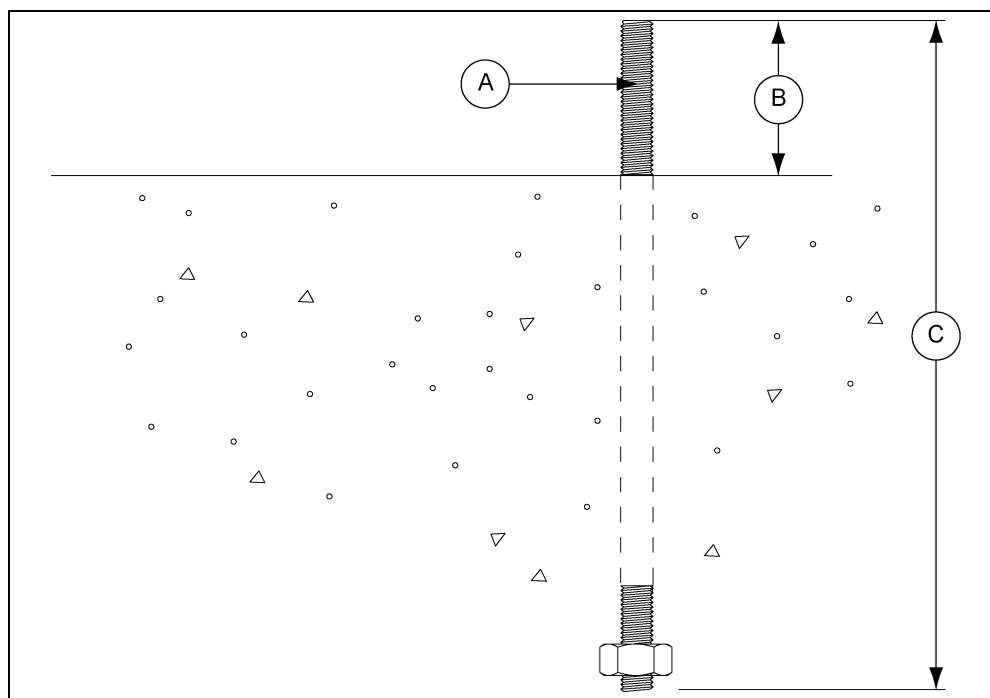

Figure 4C Anchor Bolt Example (3/4" Diameter Anchor Bolt Shown)
1. 5/8" Diameter anchor bolt (A) is the minimum allowed, 3/4" diameter anchor bolt (A) is the minimum with sidedraw flume system.
2. Exposed anchor bolt thread height (B) for 5/8" and 3/4" diameter anchor bolts are 3" (7.6 cm) and 5" (12.7 cm) respectively.
3. Overall anchor bolt length (C) for 5/8" and 3/4" diameter anchor bolts are 12" (30.48 cm) and 18" (45.72 cm) respectively. *(See Figure 4C.)*